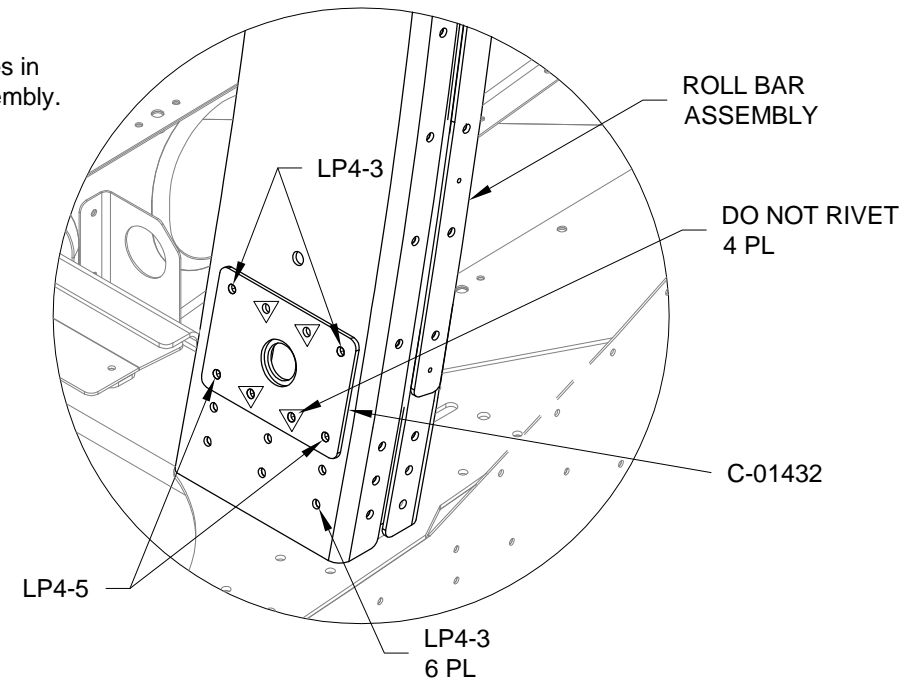

FIGURE 2: ATTACH FWD BUSHING DOUBLER
Step 7: Rivet the forward C-01432 Bushing Doubler to the Roll Bar Assembly and the F-01431D Roll Bar Base using Figure 2 rivet call-outs.
Install rivets in the six remaining holes in the forward face of the Roll Bar Assembly. See Figure 2.